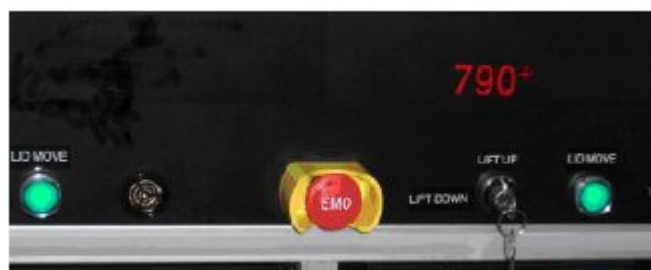

Figure 2: Lid lift controls.
5. Make sure the key-switch at front of tool is set to 'lift up'. Lift the process chamber lid by pressing the two LID MOVE buttons at the front of the tool that have turned green (figure 2). Lift the lid all the way.
18. Make sure the key-switch at front of tool is set to 'lift up'. Lift the process chamber lid by pressing the two LID MOVE buttons at the front of the tool that have turned green (figure 2). Lift the lid all the way.